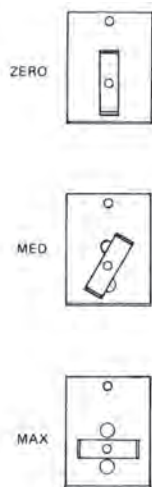

FIG. 9
The idle air adjuster (D) controls the minimum amount of air that enters the firebox. Adjustment is made by turning the adjuster vertical for zero idle air, or horizontal for maximum idle air. It is best to start out with a medium setting as shown in Figure 9.